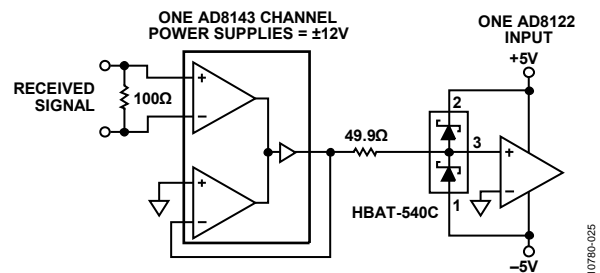

Figure 31. Optional Use of the AD8143 in Front of the AD8122 for Wide Input Common-Mode Range
The AD8122 input voltage range of  $\pm 4$  V typical is sufficient for many of these applications. If a wider input range is required, the AD8143 triple receiver (with an input common-mode range of  $\pm 10.5$  V on  $\pm 12$  V supplies) can be placed in front of the AD8122. Figure 31 shows this configuration for one channel.
- Place an AD8143 in front of the AD8122, as shown in Figure 31.